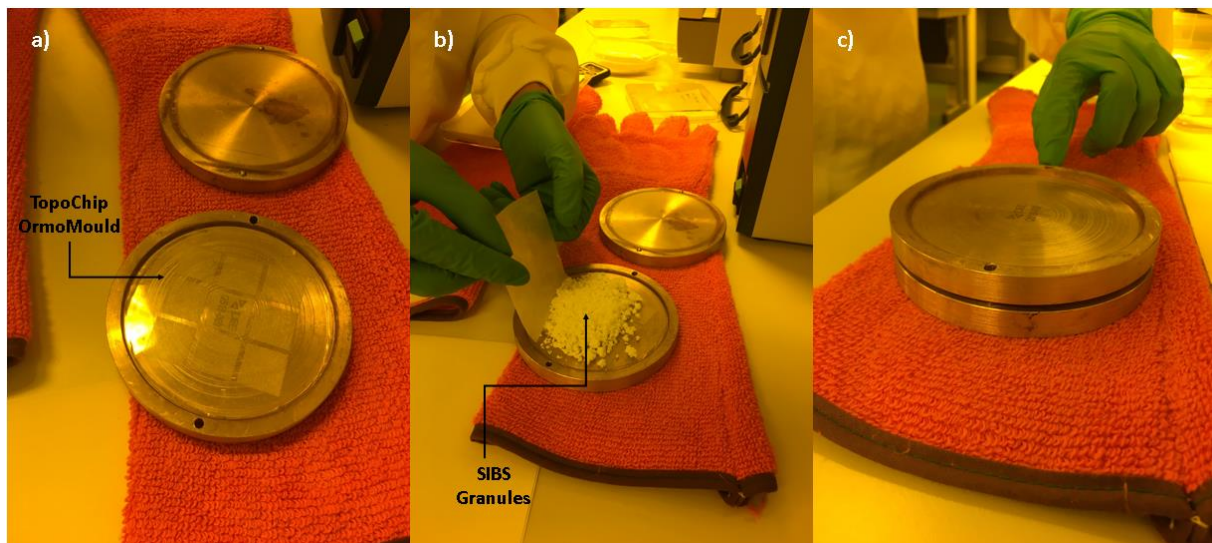

Figure 3. (a) A TopoChip OrmoMould, (b) SIBS 2000 being placed on top of the OrmoMould, (c) A SIBS sample ready for hot embossing.
**Step 3a:** Use the precision balance to weigh 2g of SIBS (or PU) granules using a disposable weighing boat which is stored next to the balance. Figure 3 shows the simple steps to prepare a SIBS Topochip for hot embossing. Similar to the PS procedure, an OrmoMould is placed on top of a PTFE sheet and then SIBS granules are poured and evenly spread on top of the Ormomould, another sheet of PTFE is placed on top of the SIBS polymer to prevent SIBS topochip from sticking to the top brass plate (see below Figure 3).